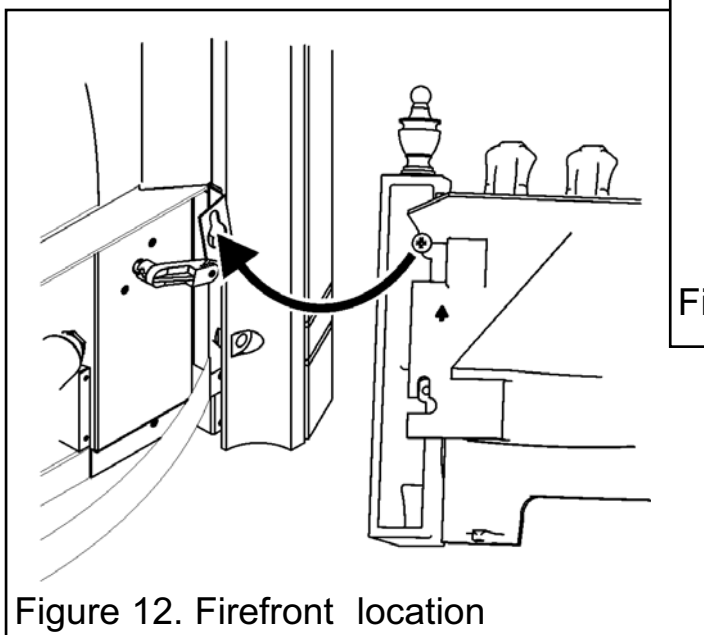
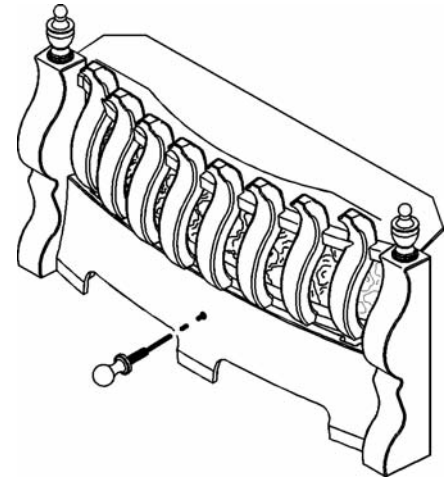

Figure 12. Firefront location
Figure 13. Ash Pan Location
3. Hook the firefront on to the fascia as in figure 12. Locate the ash pan and secure in place using the decorative knob (See figure 13).